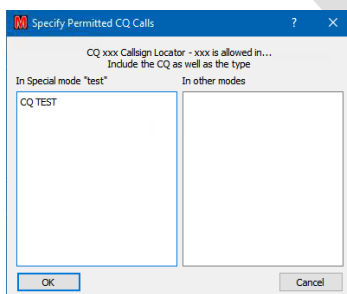

Figure 68 – Configure CQ auto responses
- **“Config CQ”**: Initiates the ‘Configure CQ’ dialogue (Figure 68) to define which CQ calls will result in an auto-response in both (Con)test and non-(Con)test modes so that in a contest there is no automatic response to non-contest calls and vice versa.